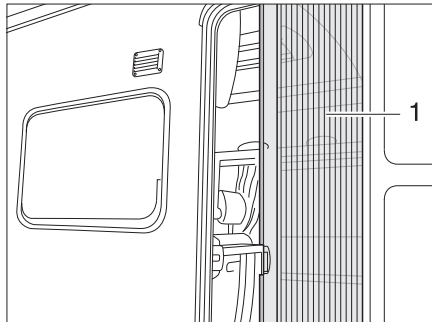

Fig. 27 Insect screen
**Opening:** ■ Pull out the insect screen completely by the handle (Fig. 27, 1).
**Closing:** ■ Slide back the insect screen by the handle (Fig. 27, 1).